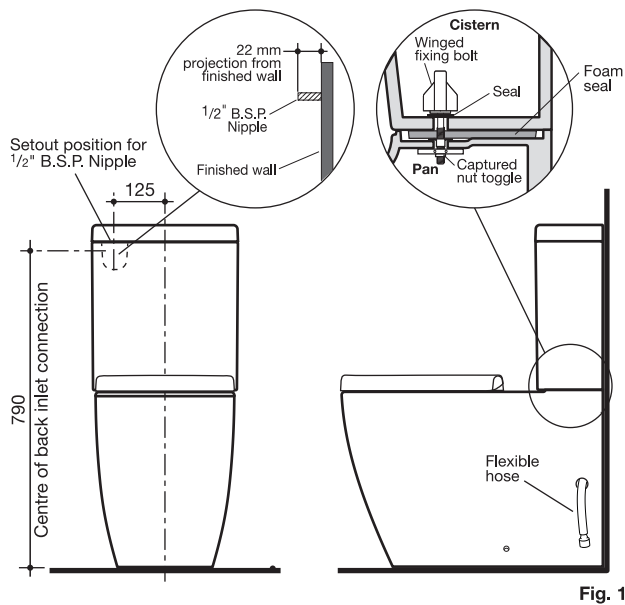

Fig. 1
- 3- Fit the seals into the winged fixing bolts, as detailed in **Fig. 1**. Twist and remove main top section of outlet valve to access bottom of cistern.
- 4- Insert the winged fixing bolts through the cistern fixing holes into the threaded fixing holes located in the pan. Gradually tighten the left and right hand nuts by hand to firmly secure the cistern to pan, as detailed in **Fig. 1**. Replace outlet valve ensuring orientation is correct.
- 4- Insert the winged fixing bolts through the cistern fixing holes into the threaded fixing holes located in the pan. Gradually tighten the left and right hand nuts by hand to firmly secure the cistern to pan, as detailed in **Fig. 1**.